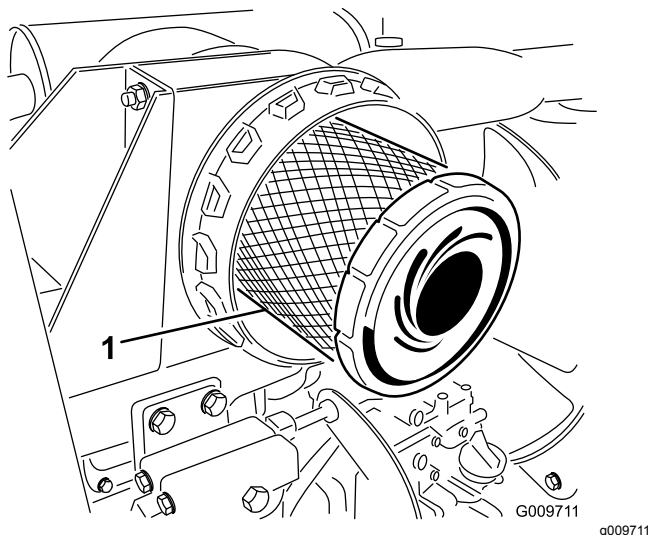

Figure 31
3. Remove and replace the primary filter (Figure 31).